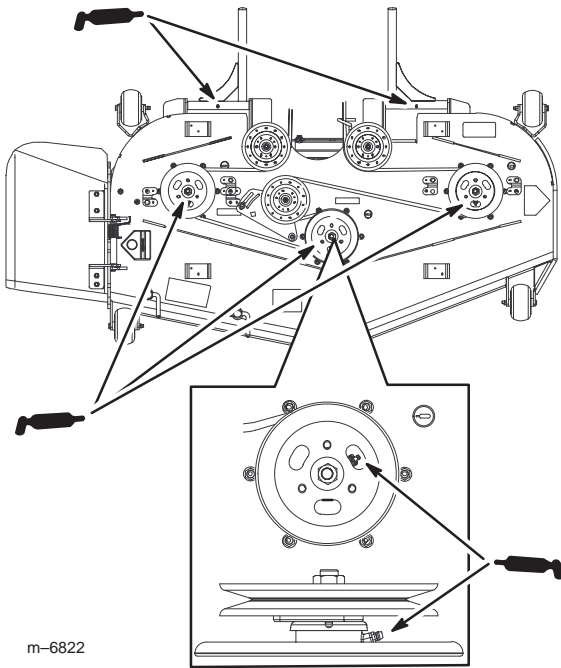

Figure 45
3. Grease the three spindle bearings under the pulleys until grease comes out the lower seals (Fig. 45).
4. Grease the fittings on the push arms (Fig. 45).